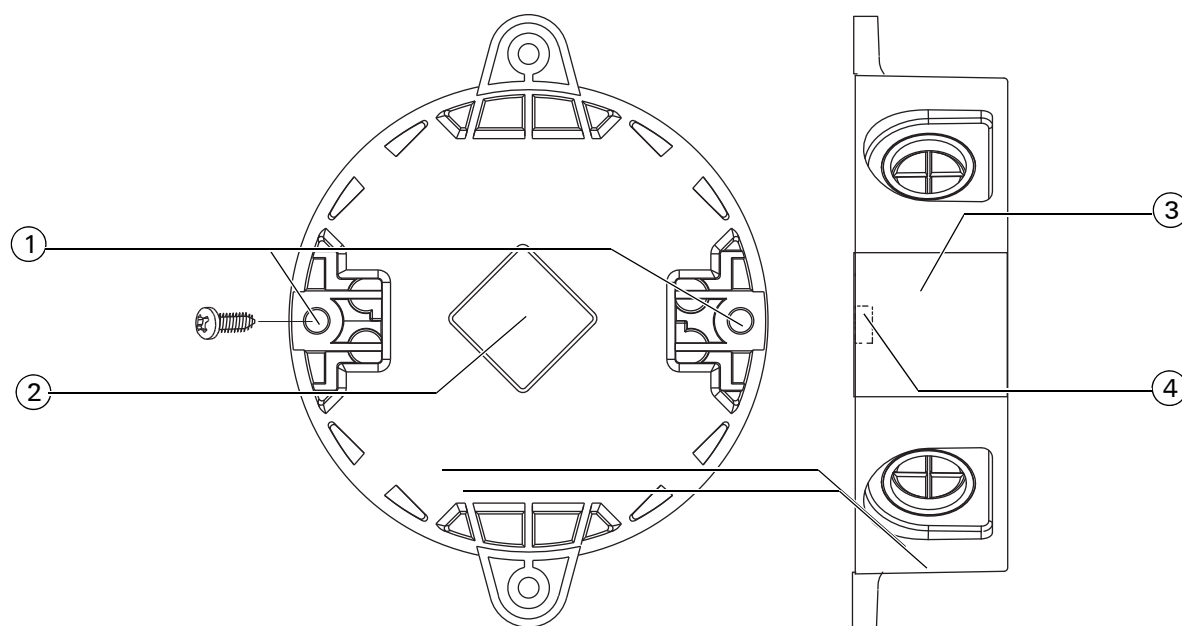

Fig. 10: 4B-DHM welding option
- 1 Position the 4B-DHM so the flat base (that contacts the mounting surface) is towards you. This position corresponds to Figure 10. The item numbers in Figure 10 are referred to in this procedure.